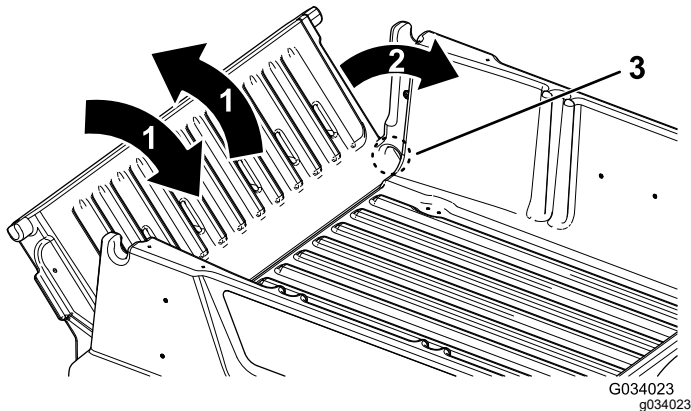

Figure 19
2. Rotate the tailgate to approximately the 45° position (Figure 19).
3. Use a short, shaking motion to rotate the tailgate back and forth several times (Figure 19).